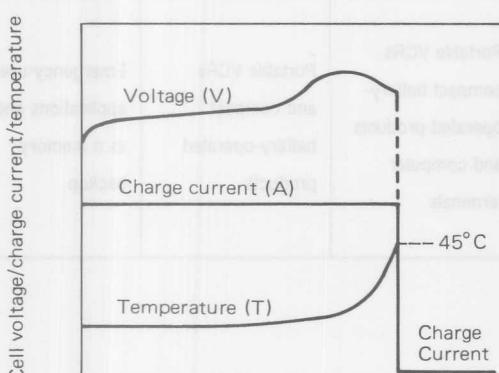

Fig. 26 Charging characteristics of temperature cut off charging system
(A) As shown in Fig. 26, charging at the C rate raises the cell temperature. The rise of the temperature to a predetermined level can be detected, and the charging current cut off or dropped to the C/10 ~ C/30 rate.